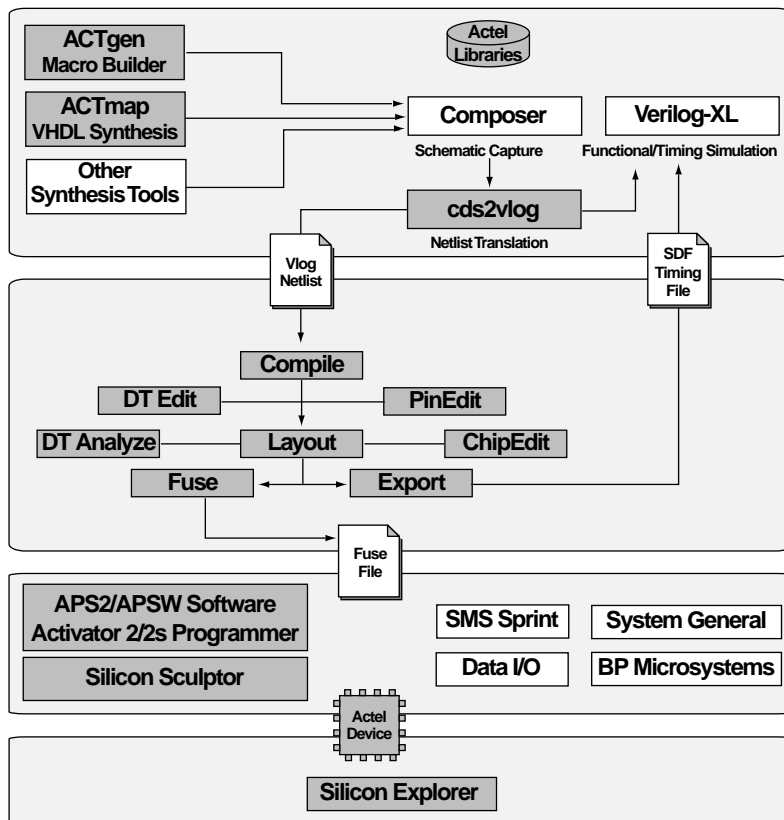

Figure 2-3. Composer/Verilog-XL Design Flow
Figure 2-3 shows the schematic-based design flow for an Actel FPGA using Designer software and Composer schematic capture software.¹
1. Actel-specific utilities/tools are denoted by the grey boxes in Figure 2-3.